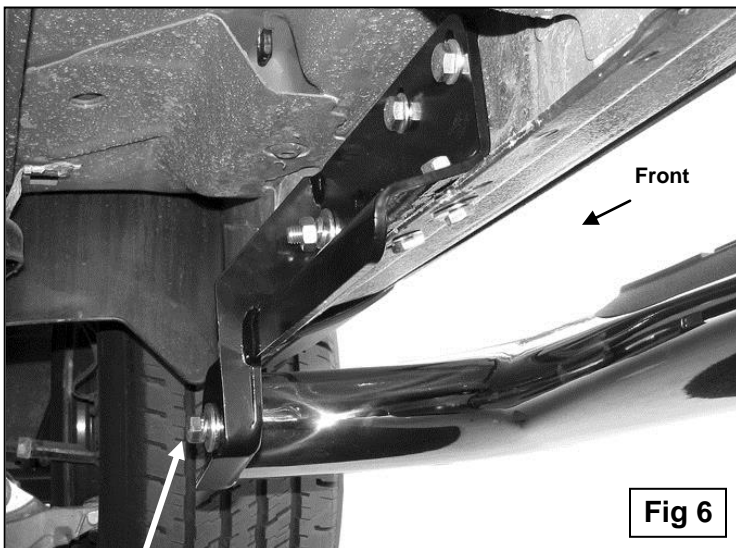

Fig 6
6. Once the Mounting Brackets are partially installed, carefully unpack and separate the driver and passenger Sidebars. Position the passenger Sidebar up to the Mounting Brackets and secure with the included (2) 1/2" x 2" Hex Bolts, (2) 1/2" Lock Washers, and (2) 1/2" Flat Washers, (Figure 6). Snug but do not tighten at this time.